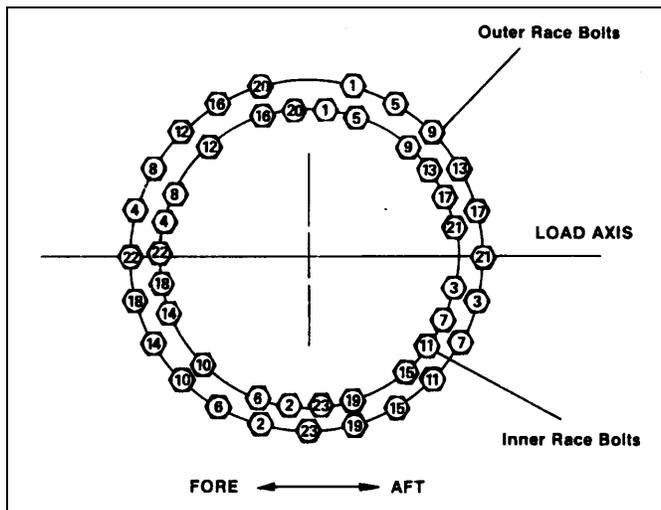

Figure 2-35. Swing Bearing Torquing Sequence.
- p. Following the Torque Sequence diagram shown in Figure 2-35, tighten the bolts an torque bolts to 80 ft. lbs. (109 NM) wet.
- u. Following the Torque Sequence diagram shown in Figure 2-35, tighten the bolts an torque bolts to 170 ft. lbs. (231NM) wet.
3. Swing Bearing Torquing Sequence, see Figure 2-35.